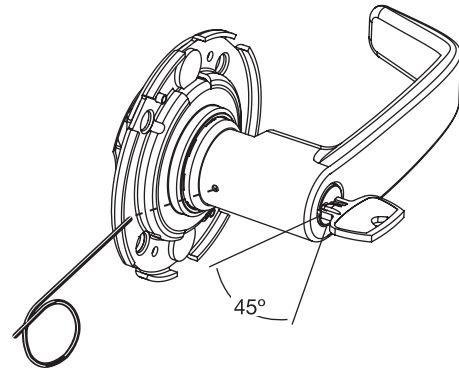

Fig. 6A
1. Insert key, rotate 45° clockwise and hold (Fig. 6A).